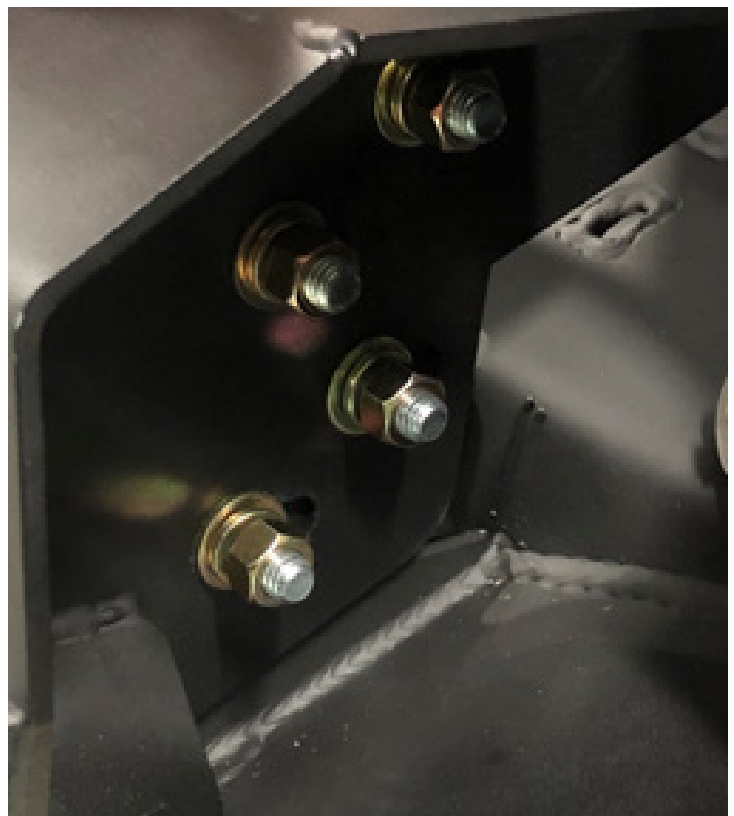

Figure 18
23. Using both a 14mm and 17mm socket wrench, fully tighten the four (4) tow hook bolts and eight (8) frame rail end bolts.
25. Using a $\frac{3}{4}$ " socket wrench, fully tighten down the eight (8) $\frac{1}{2}$ "-13 yellow zinc hex nuts. (Figure 18)